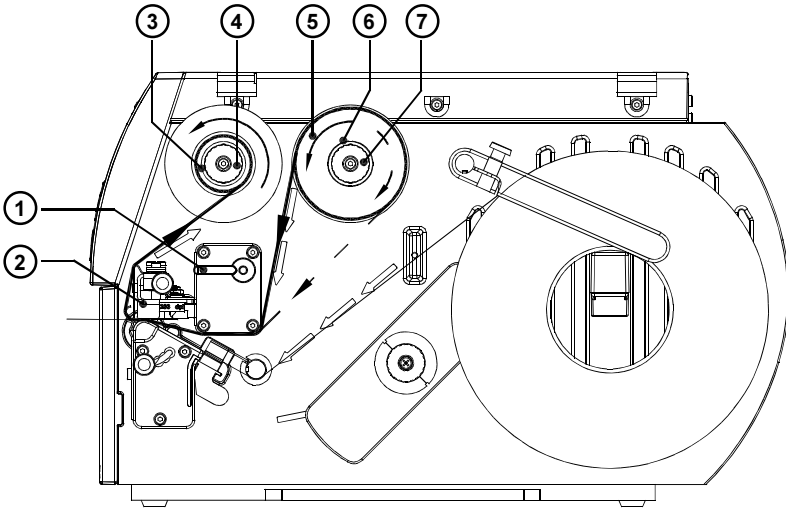

Figure 5
1. Raise the printhead assembly (2) by rotating the lever (1) clockwise until it stops.
2. Slide the roll of transfer ribbon (5) as far as possible onto the ribbon supply hub (6).
3. Hold tight the supply roll (5) and rotate the knurled knob (7) counter-clockwise to clamp the roll onto the ribbon supply hub (6).
4. Slide a cardboard core (3) onto the ribbon take up hub. Clamp the core by rotating the knurled knob (4) counter-clockwise.
5. Feed the transfer ribbon along the path as shown in figure 5 and attach it to the cardboard core (3) using a piece of tape or a label. In figure 5 the solid line represents ribbon with ink on the inner side, and the broken line represents ribbon with ink on the outer side.
7. Lower the printhead by rotating the lever (1) counter-clockwise until it locks.